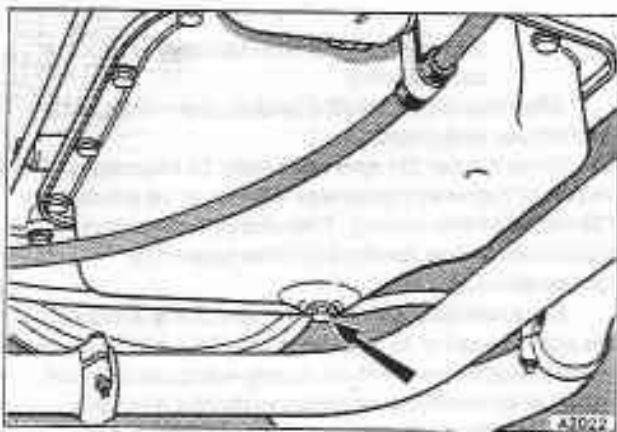

Fig. T3-2 Transmission sump drain plug
2. Place a clean container having a minimum capacity of 3 litres (5 Imp pt, 6 US pt) beneath the drain plug situated on the corner of the transmission sump (see fig. T3-2).